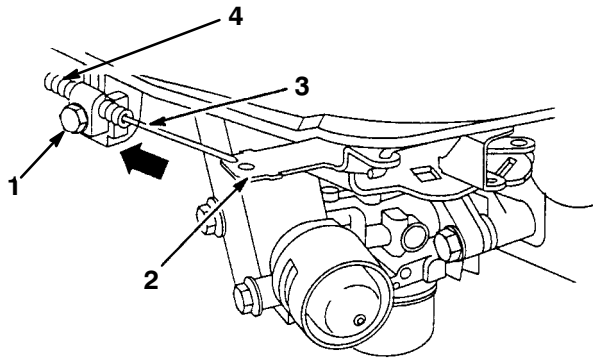

Figure 35
3. Loosen the cable clamp screw until the throttle cable slides (Fig. 35).
4. Move the governor control lever, the throttle cable, and the casing in the direction of the arrow as far as possible (Fig. 35).